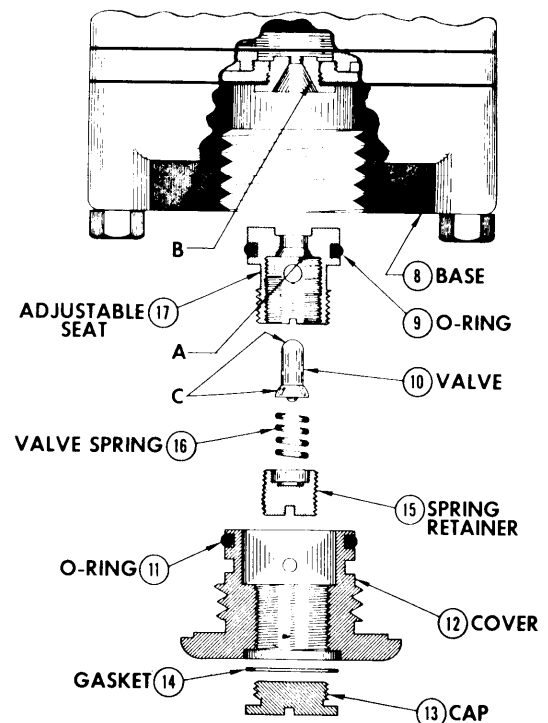

Figure 3
The ratio of signal to control pressure may be adjusted by adjusting Valve Seat (17) as follows (see Figure 3):
4. If necessary, remove Cap (13) and adjust Valve Seat (17).
5. Repeat Steps 1, 2 and 4 until the correct ratio is obtained. The unit may be adjusted while operating with the Cap removed, but the final setting must be checked after the Cap (13) has been replaced.
If the control pressure does not go to zero, or if the exhaust appears to be leaking: See Figure 3.
1. Remove the Cover (12) by unscrewing from the Relay Base (8).
2. Disassemble the cover assembly as shown in Figure 3.
4. Inspect both Hemispherical Surfaces (C) of Valve (10) for dirt, chips, etc. If any scars or imperfections are apparent, the Valve (10) should be replaced.
5. Reassembly the cover assembly as in Figure 3. Be sure the Valve Cover (12) is tight. Following the procedure outlined in Section IV, adjust the Valve Seat (17), replace the Cap (13) and check the Cap (13) and Cover (12) for leakage.
2. Inspect the Valve (10) surfaces for bumps, scars or other irregularities. The hemispherical surfaces must be smooth and regular.
3. Inspect the valve seats (A and B in Figure 3). These surfaces must be clean and smooth with no scars or surface irregularities.
4. Inspect Diaphragms (2) and (7) for holes or worn spots which might permit air leakage.
5. Install the complete Cover assembly in the Base (8) and make sure that the Valve Spring (16) is seating the valve properly.